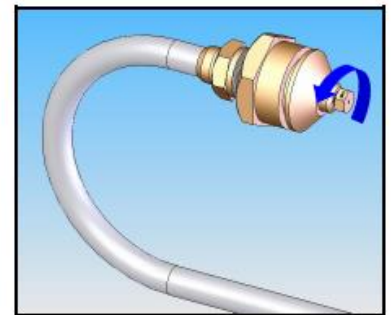

Figure 5
- Dismantle current injector, and insert a new injector appropriate to gas system intended to use instead of it (Figure 5).